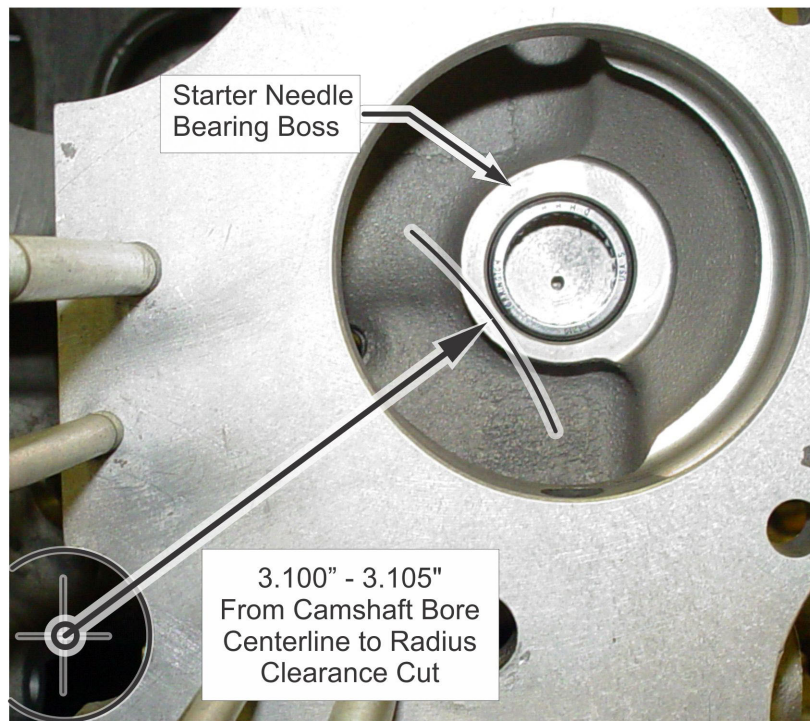

Figure 4. Radius Clearance Cut, Distance from Camshaft Bore Centerline, Permold Crankcase
1. Measure and mark 3.100"- 3.105" from the camshaft bore centerline radius to the starter needle bearing boss (see Figure 4).